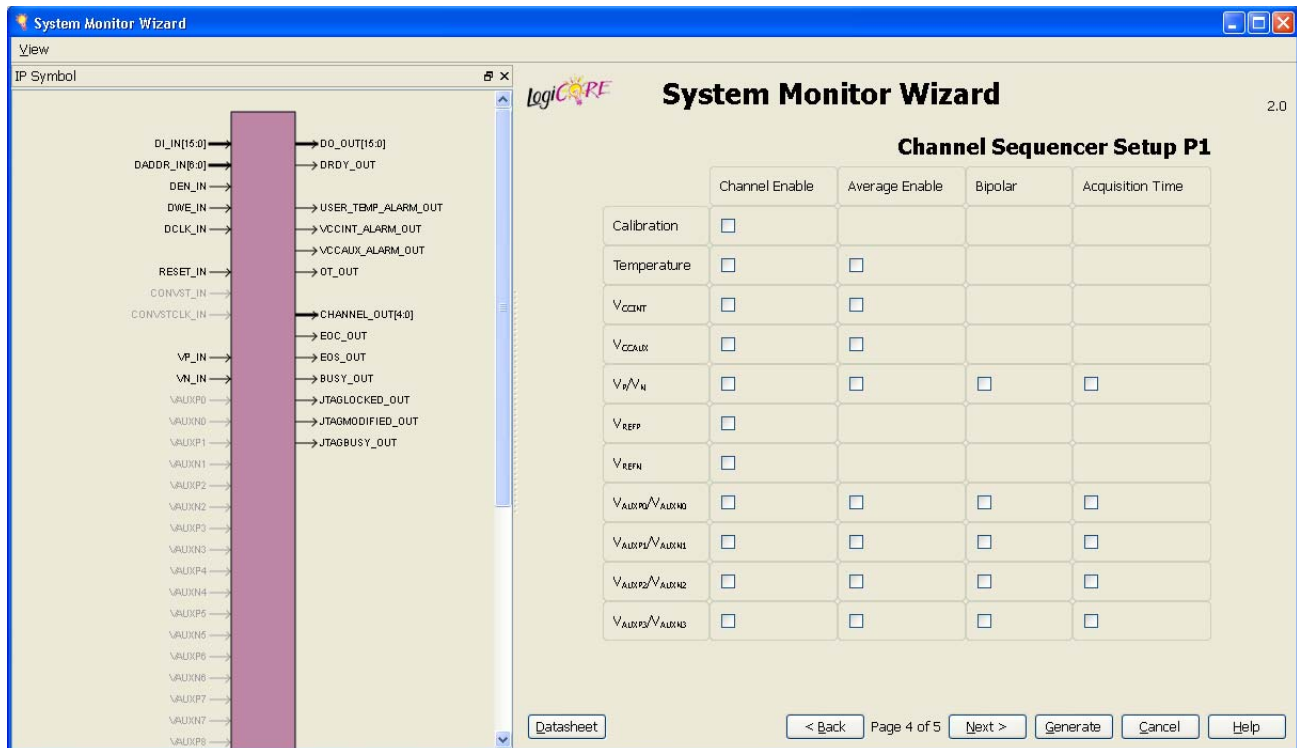
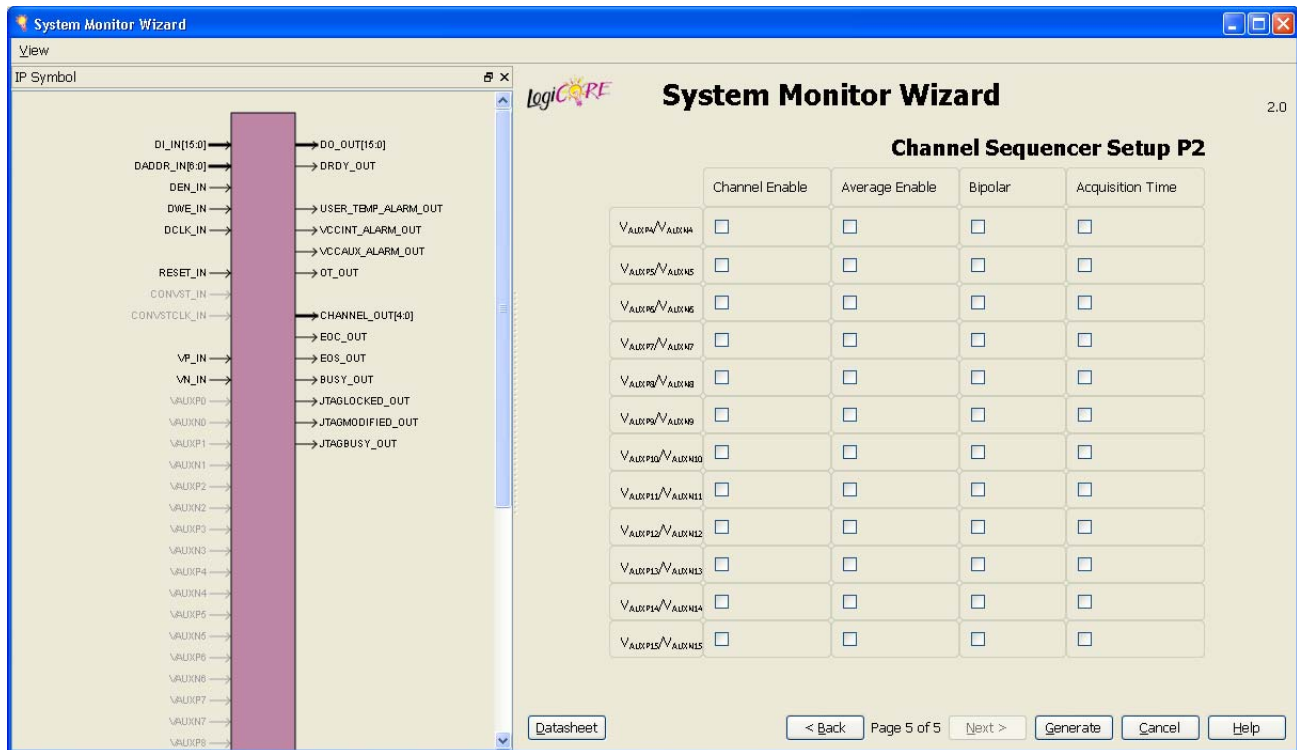

Figure 3-7: Channel Sequencer Setup P1 - Page 4
Figure 3-8: Channel Sequencer Setup P2 - Page 5
- **Channel Sequencer:** Choosing this mode, allows the user to select any number of channels to monitor. The channels to be used for this mode can be selected on Page 4 (Figure 3-7, page 29) and Page 5 (Figure 3-8, page 30) of the Wizard.
Channel Sequencer Setup P1 (Figure 3-7) and Setup P2 (Figure 3-8) screens of the Wizard are used to configure the Channel Sequencer. All the possible channels that can be included in the sequence are listed in the table spread across screens 4 and 5 (Figure 3-7 and Figure 3-8) of the Wizard: